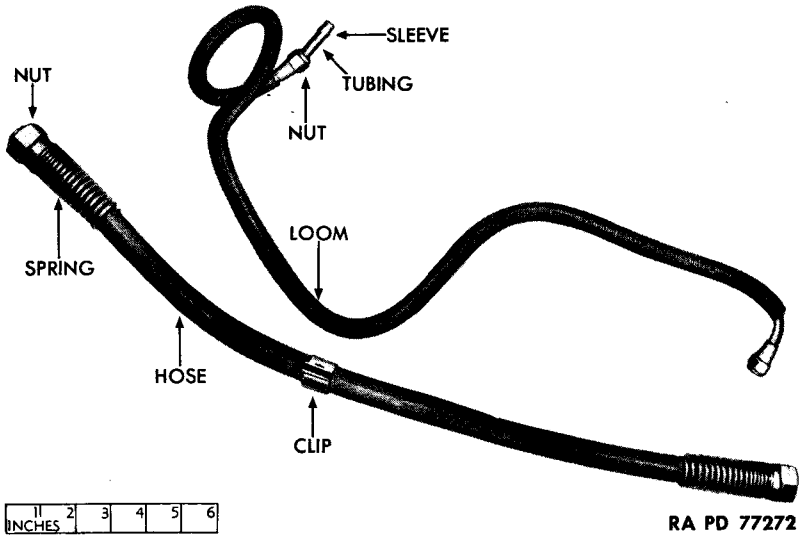

Figure 71 – Air System Tubing and Hose
a. **Description** (fig. 71). Heat-treated copper tubing is used throughout for the air brake system. Connections are of the sleeve and nut type, and points requiring flexible couplings are provided with heavy rubber hose furnished with detachable fittings.